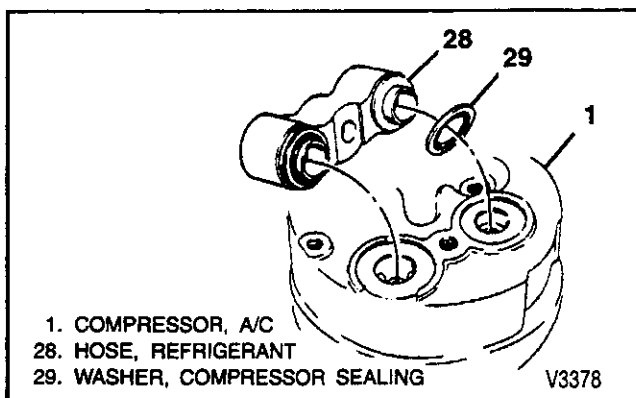

Figure 24—Sealing Washer Installation (1 of 2)
1. Install sealing washer onto pilots of suction/discharge block fitting. Washers must "bottom" against surface of block fitting (figure 24).